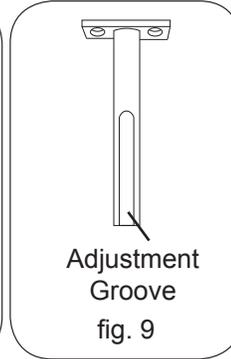

fig. 9
11. Insert the body support into the swing-arm so that the adjustment groove (figs. 9 and 10) on the ratchet assembly is in line with the hand knob.